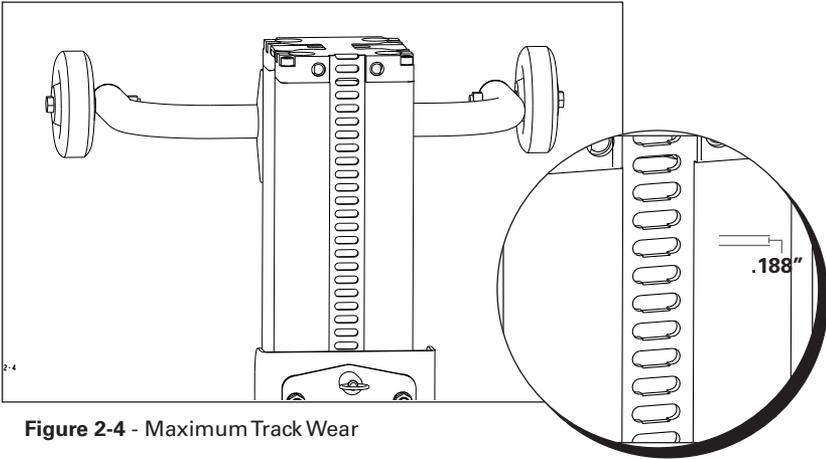

Figure 2-4 - Maximum Track Wear
7. **Track Sections** - Check that the teeth of all the track sections are not excessively worn (.188" (5 mm) tooth remaining), bent, misshapen or missing. (See Figure 2.4)